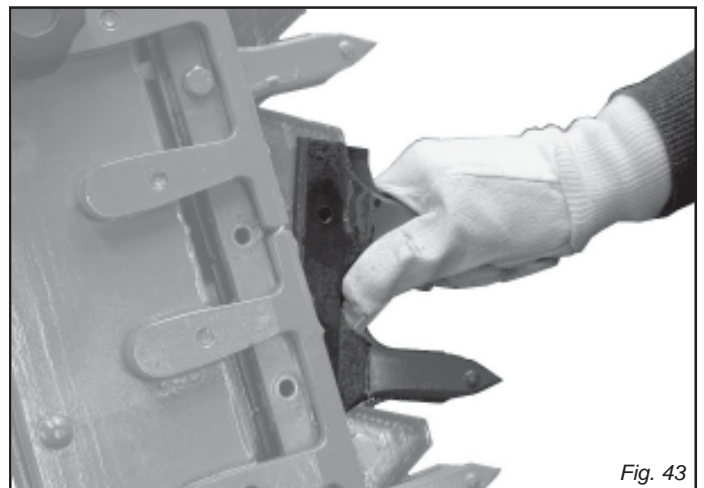

Fig. 43
### REPLACEMENT OF SECTIONS (L, Fig. 43)
- Remove all the teeth (Fig. 43).
- Slide out the tooth (Fig. 43), put in the new one and lock it in place with the screws. For this it would be advisable to use a torque wrench, respecting the values of 30 Nm.